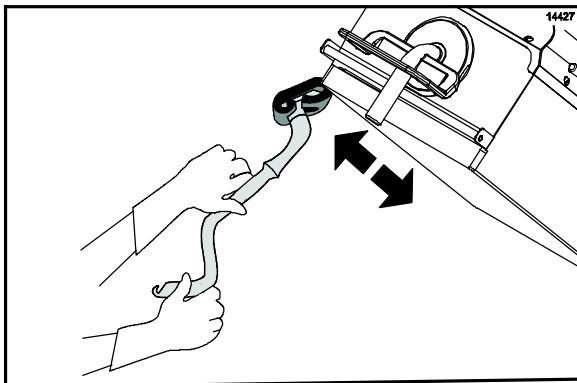

Figure 90
- Apply the grill cleaner to the outer edges of the right and left platens. (See Figure 90.)